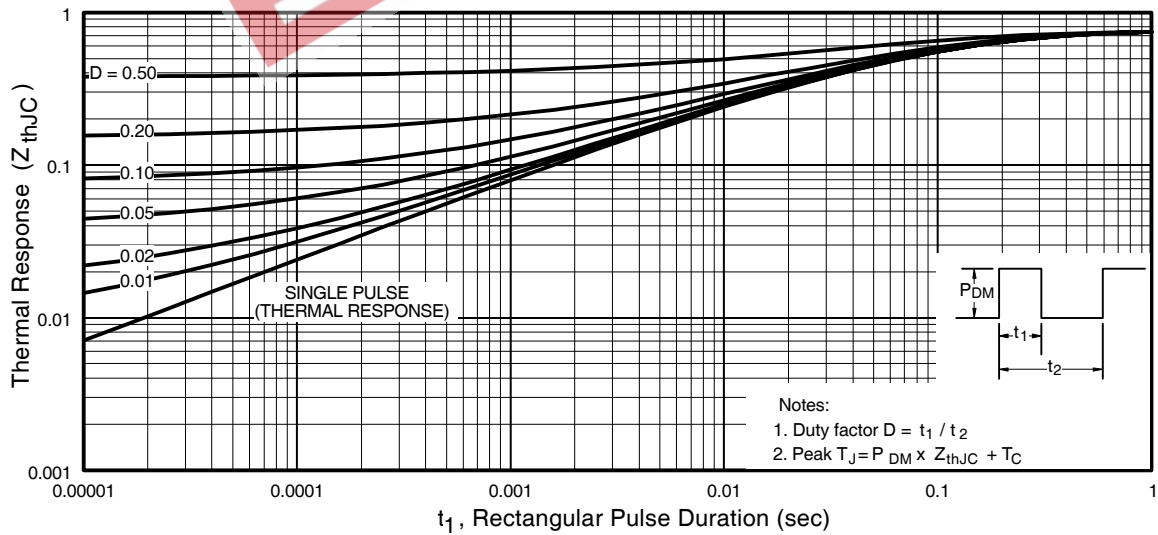

Fig 11. Maximum Effective Transient Thermal Impedance, Junction-to-Case
- ① Repetitive rating; pulse width limited by max. junction temperature. (See fig. 11)
- ② Starting $T_J = 25^\circ\text{C}$, $L = 0.35\text{mH}$